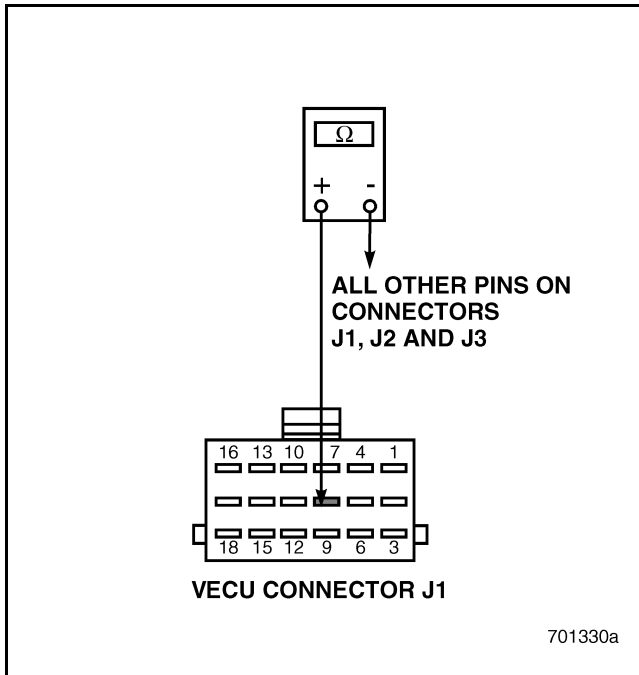

Figure 708
3. Check for continuity between VECU connector J1 pin 8 and all other pins on VECU connectors J1, J2 and J3 (see Figure 708).